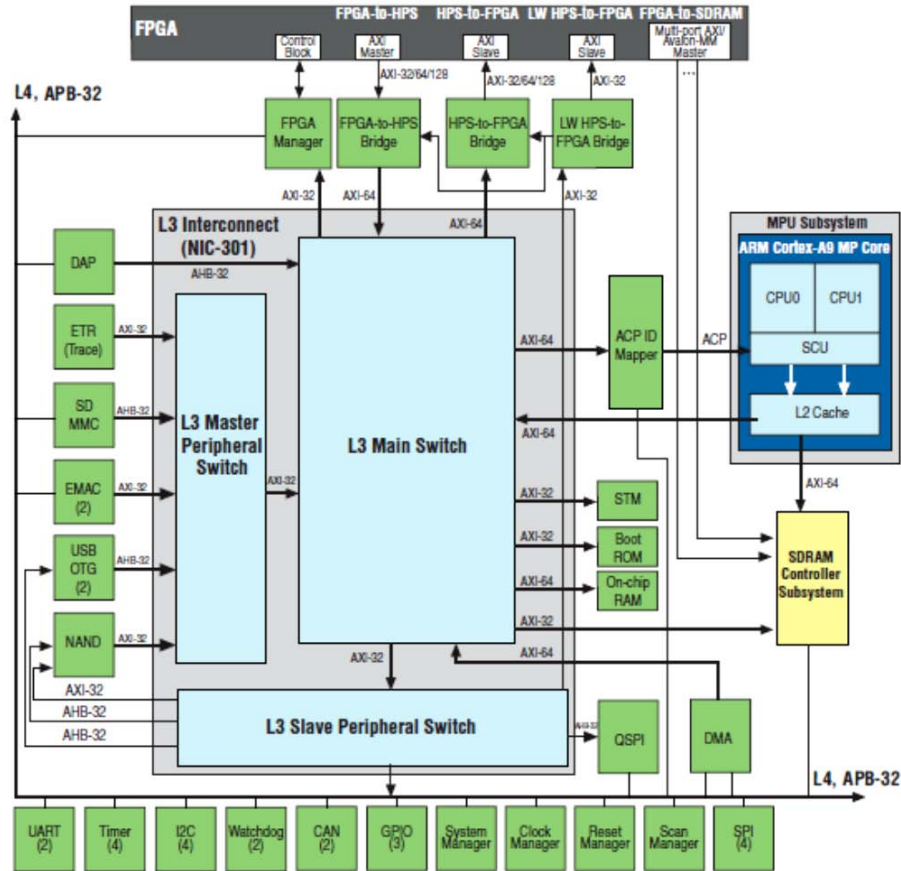

Fig. 2: HPS/FPGA Bus and Bridge Communication Block Diagram
The HPS-to-FPGA and FPGA-to-HPS master/slave connection block diagram used by the Cyclone V is provided in Fig. 2. This figure gives a detailed outline of how the HPS, FPGA and its associated peripherals communicate through a series of bridges and AXI buses. As seen in the figure, there are 3 main bridges used for communication: the FPGA-to-HPS bridge (f2h), the HPS-to-FPGA bridge (h2f), and the Lightweight HPS-to-FPGA bridge (**lwh2f**). For this lab and subsequent labs, we will only be concerned with the lwh2f bridge. Although only the lwh2f HPS-to-FPGA communication is shown in Fig. 2, the slaves are allowed to communicate back to the HPS through the FPGA-to-SDRAM connections provided by the FPGA's Avalon Memory Mapped (MM) Master.